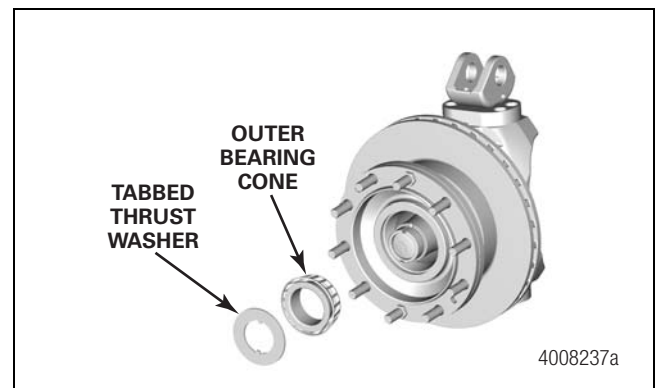

Figure 6.2
7. Remove the tabbed thrust washer and outer bearing cone from the spindle. Figure 6.2.